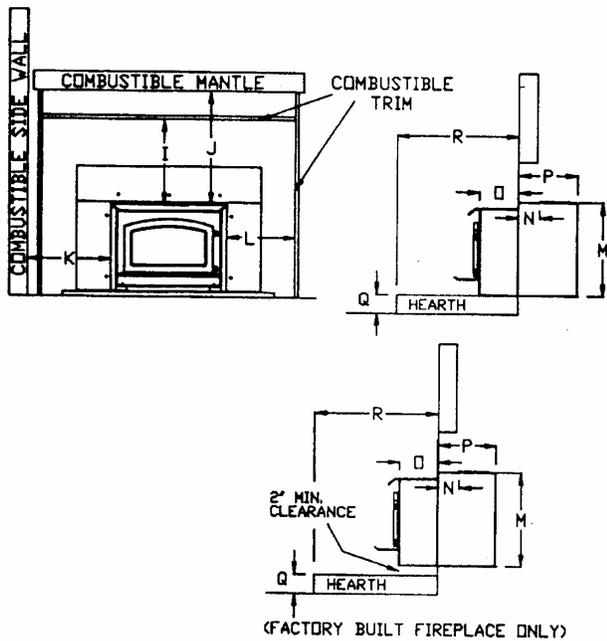

FIGURE 3
Minimum clearances to combustibles must be maintained as shown in figure 3 and the following chart. NOTE: Materials projecting more than 3/4" from the wall are considered mantels.
2. Check all required clearances as specified in figure 3.